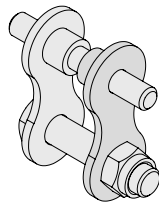
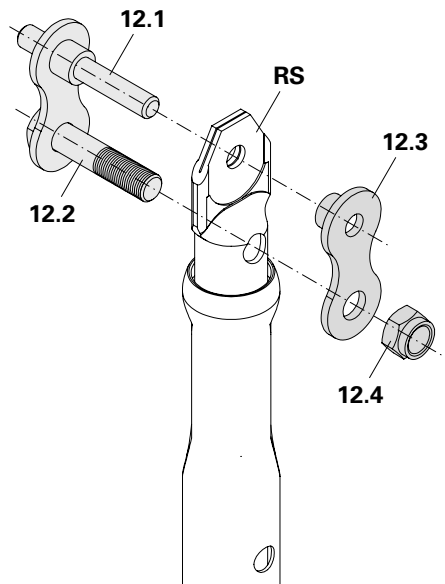

Fig. A702
Fig. A703a
1. Take the Adaptor Quick Connector RS apart (**12**). (Fig. A702 + Fig. A703a)
4. Fit a nut (**12.4**) onto the threaded bolt (**12.2**). (Fig. A703a)